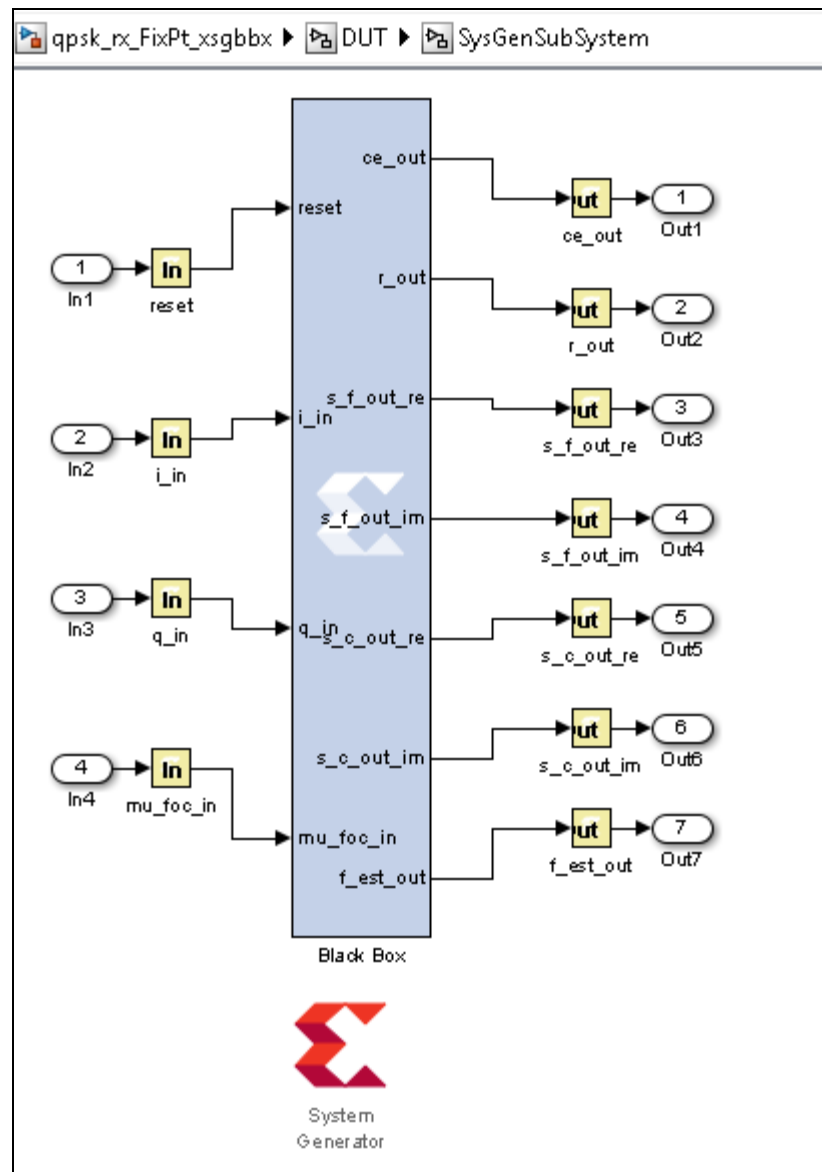

Figure 1-6: Xilinx Black Box generated by HDL Coder
5. Click on HDL Code Generation and modify the settings according to the previous labs. There is no pipelining required for this project. Right Click and select run this task to generate your Xilinx Block Box Design. Your default design should look similar to Figure 1-6 below.